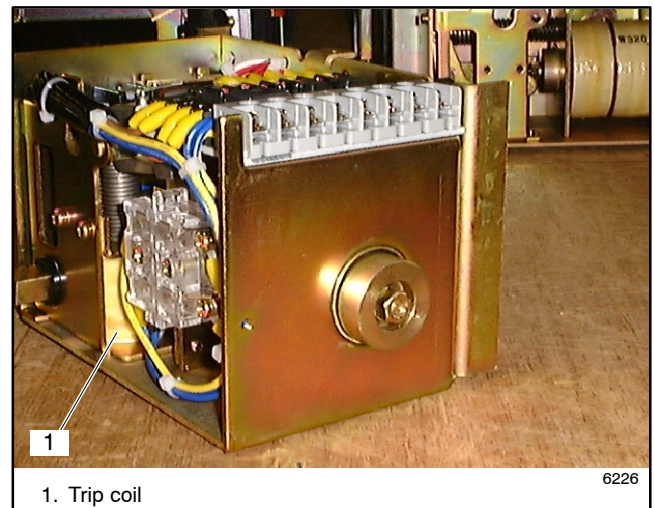

Figure 8-22 Trip Coil Location
1. Locate the trip coil. See Figure 8-22.